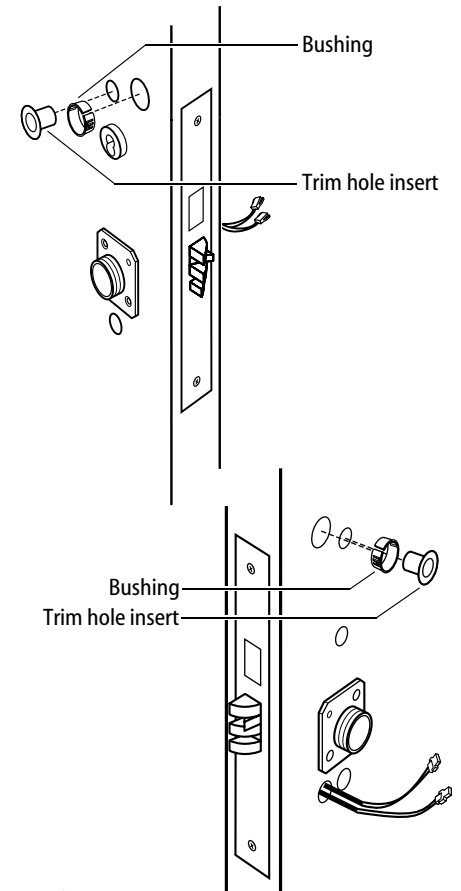

Figure 10
- 2 Insert the two bushings into the wire hole on each side of the door (see Figure 10).